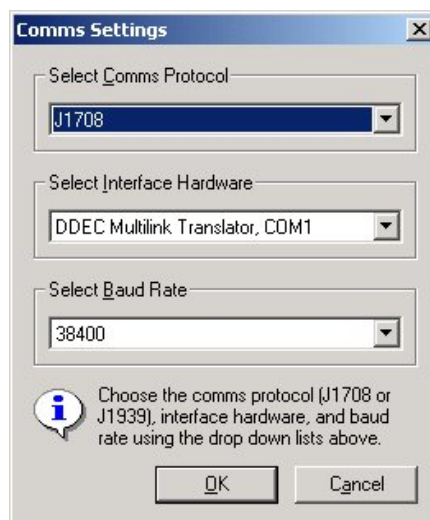

Figure 1
1. From the DRS “Welcome Screen” click on “Tools” then “Comms Settings.” The screen below will be displayed (Figure 1).